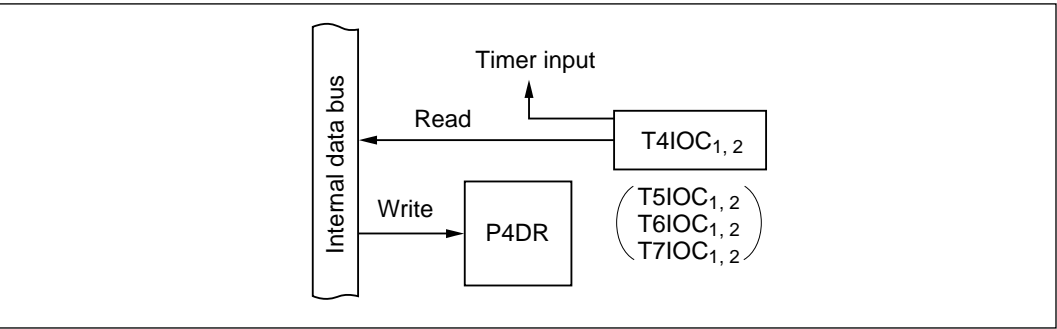

Figure 10-26 Input Capture Combined with General-Purpose Input (Modes 1 to 7)
(5) **Timer Input Combined with General-Purpose Input (Modes 1 to 7):** Figure 10-26 shows a block diagram illustrating the input capture function when combined with general-purpose input. Table 10-20 indicates register read/write data. An input capture pin can also be read as an input port, to monitor the timer input level at T4IOC₁, T4IOC₂, T5IOC₁, T5IOC₂, T6IOC₁, T6IOC₂, T7IOC₁, or T7IOC₂.